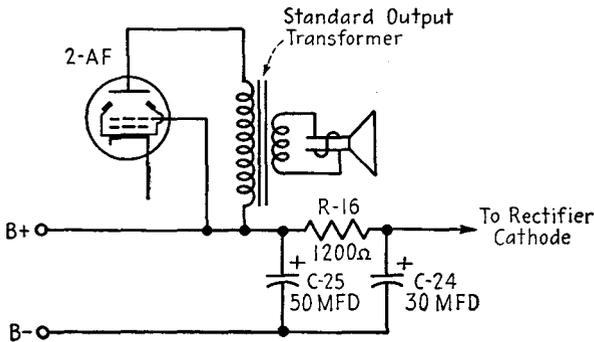

FIG. 18-30.—Replacing a hum-bucking-type output transformer. Method 2.
2. Use the circuit of Fig. 18-30. This filters the second AF plate voltage supply also and will decrease the *B* plus voltage. The filter resistor should be replaced by one of higher wattage.